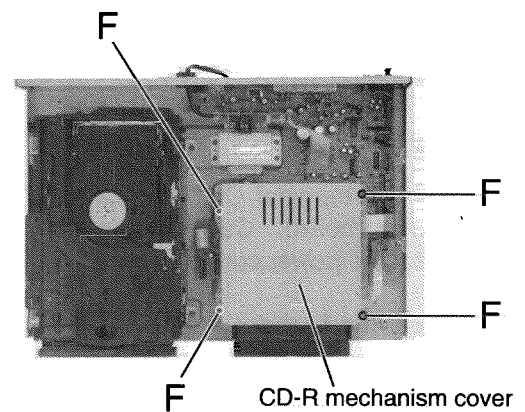

Fig.10
■ Removing the CD mechanism assembly (See Fig.10 to 13)